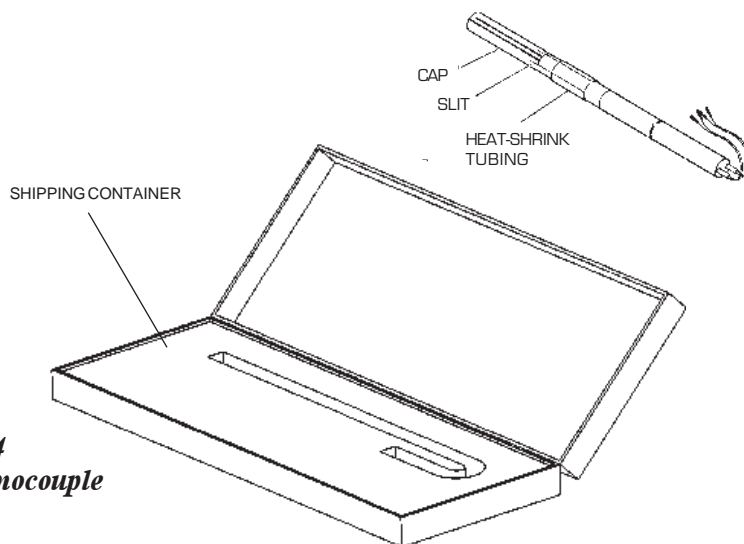

Figure 2.14
1. Remove the thermocouple assembly (see Figure 2.14) from its plastic shipping container and check it for damage. If the assembly is damaged, notify TA Instruments immediately.